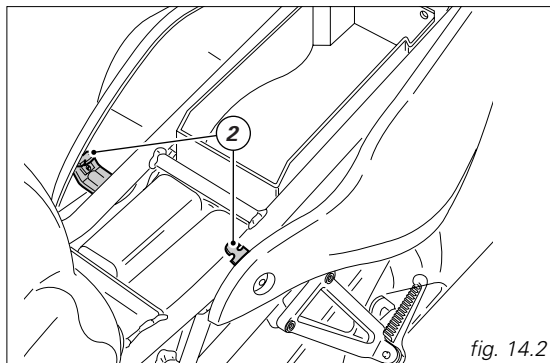

fig. 14.2
Fit the ignition key into the lock (1) and turn the key clockwise until the rear end of the seat lifts up. Pull the seat backwards to slide it off its front holders. At the front end of the compartment underneath the seat, there are the helmet hooks (2, fig. 14.2) for rider and pillion rider helmets. Hook the helmet straps onto the hooks and leave the helmets hanging outside. They will be locked safely when you refit the seat.